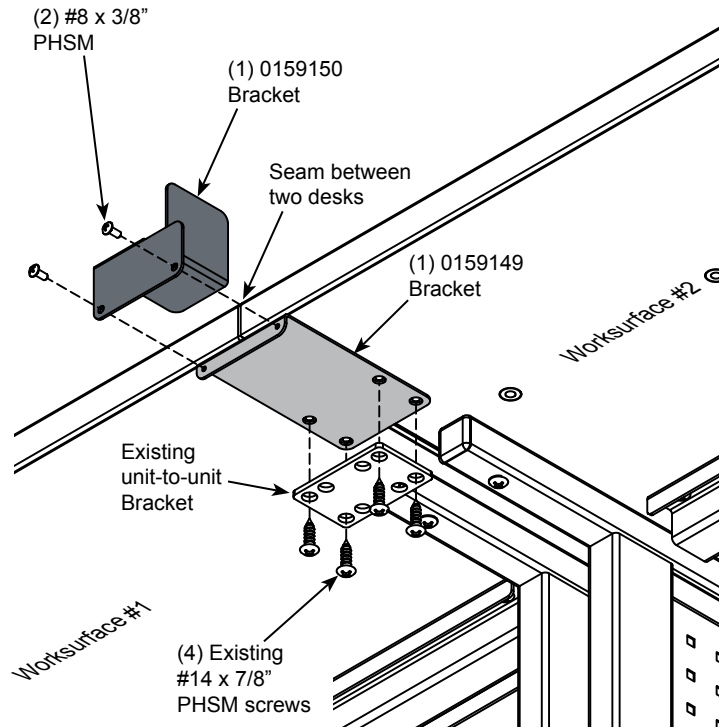

Figure 4.1
2. From under the worksurfaces, remove the existing unit-to-unit bracket and (4) screws. **Figure 4.1.**
4. Attach the 0159150 bracket to the 0159149 bracket with (2) #8 x 3/8" PHSM screws.